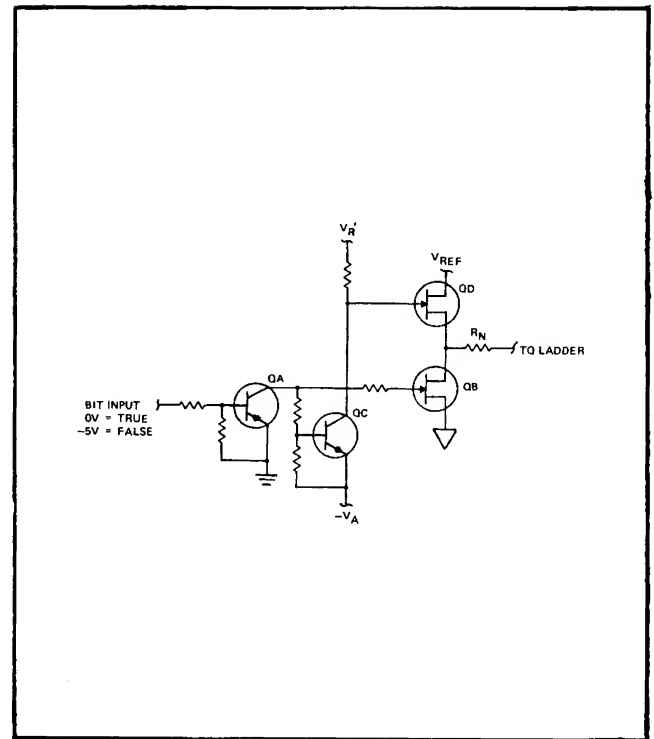

Figure 3-4. LADDER DRIVER (SIMPLIFIED)
3-34. **DRIVERS.** Each ladder resistor is connected to V_{REF} common using a driver such as the one shown in Figure 3-4. When the bit command is high (OV), QA and QC are both turned off, which applies $-V_A$ to the gate of QB and V_R' to the gate of QD. This condition switches QD on and QB off, thus applying V_{REF} through QD to the ladder resistor R_N . Absence of a bit command will apply a low ($-5V$) to the base of QA which causes it to conduct. The resulting OV collector signal switches on gate QB and the driver QC. Conduction of QC applies $-V_A$ to the gate of QD, turning it off. As a result, V_{REF} common is applied through QB to the ladder resistor R_N .